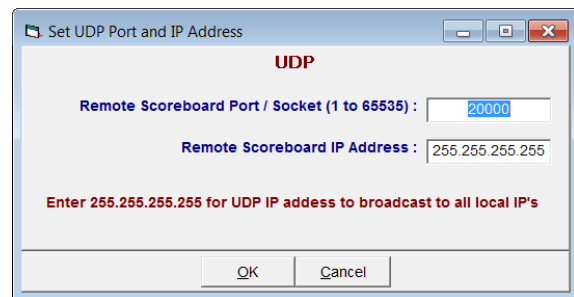

Figure 44: UDP Port for Daktronics Full Matrix
6. For the *Remote Scoreboard Port/Socket* option (Figure 44), enter "20000". Verify the *Remote Scoreboard IP Address* is "255.255.255.255", and then click **OK**.